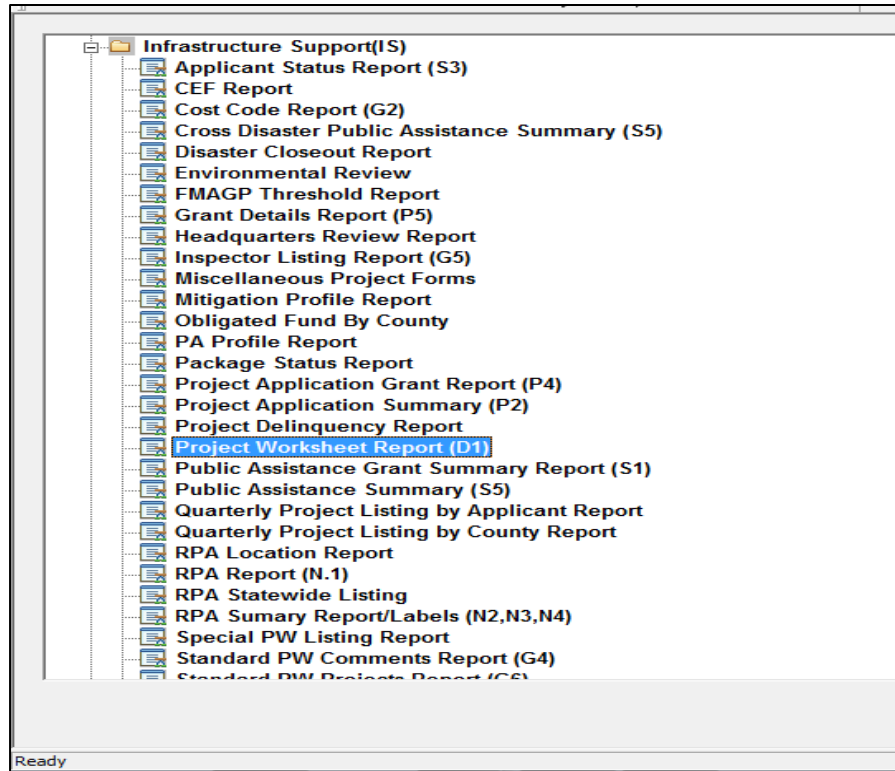

Figure 14-6: Infrastructure Support Reports List
4. To generate a standard Infrastructure Support (IS) report, complete Steps 4a – 4g.
- a. Double-click the Infrastructure Support (IS) folder. The list of Infrastructure Support Reports is displayed (Figure 14-6).